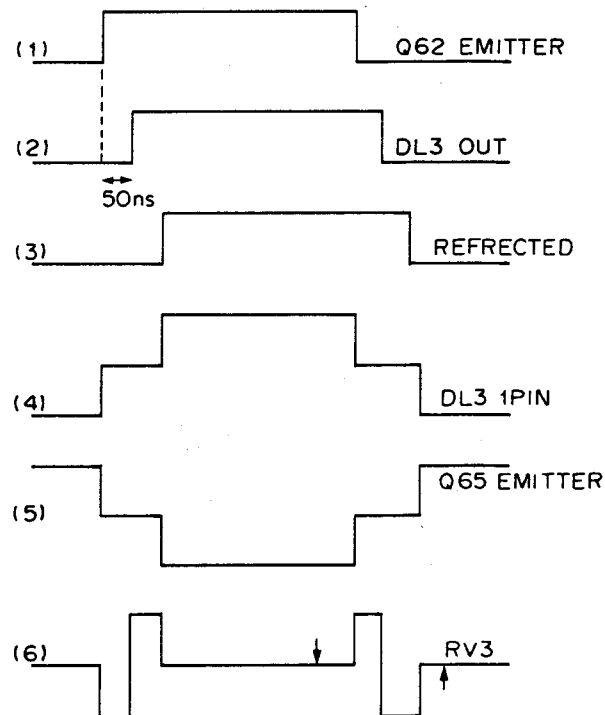

Fig. 2-6
The above two signals pass through the buffers Q87 and Q92 respectively and are then mixed at RV10. The mixed signal (whose mixing ratio was determined by RV10) is input to DL3, S2, S3 and RV10 are used to adjust the phase and level for higher resolution. (Refer to Fig. 2-6.) Because the DL3 output is not terminated, however, it is reflected (3) so that the input to DL3 becomes the waveform (4). (4) is reflected at Q64 and crosses the Q65 buffer, then becomes the waveform (5). On the other hand, output (2) of DL3 is input to the Q63 AMP so that (4) and (2) are mixed to obtain (6). RV3 is set to the level indicated by the arrow.